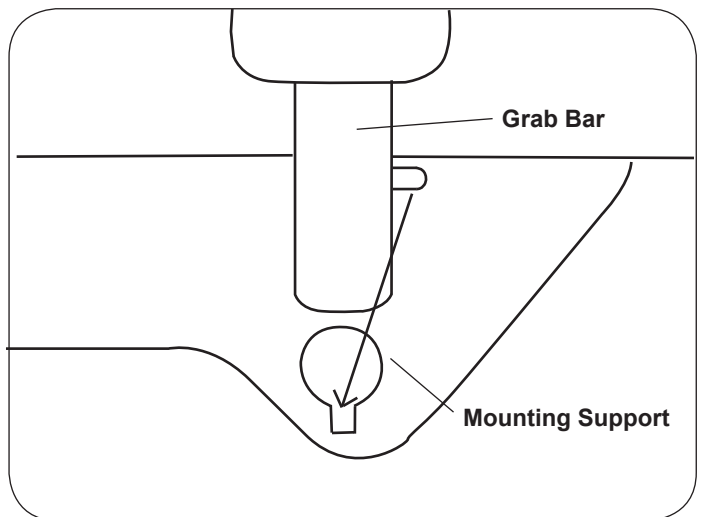

Figure 11. Grab Bar
3. Align pin on grab bar shaft with mating slot on side of table. See Figure 11.